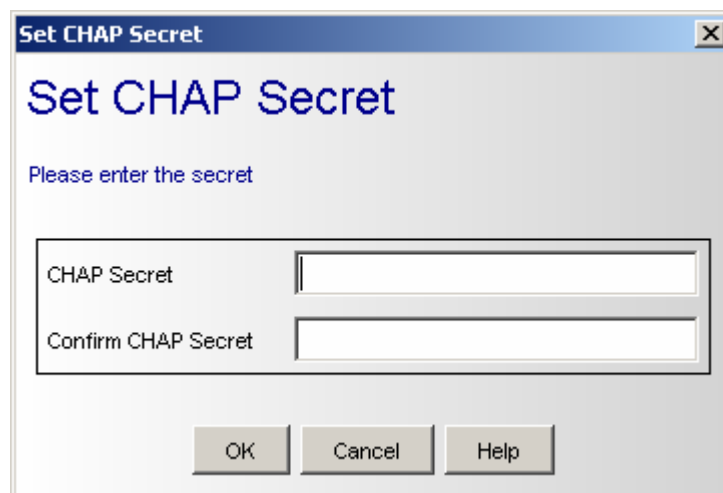

Figure 5-33. Set CHAP Secret Dialog Box
2. On the **iSCSI** menu, click **Change CHAP Secret**. The Set CHAP Secret dialog box appears (see Figure 5-33).